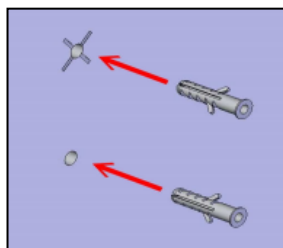

Figure 4
STEP 4: Insert the supplied nylon screw mounts into the drilled holes (Figure 4).